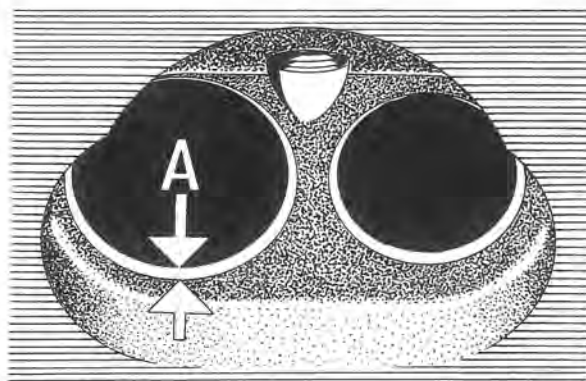

Fig. 2-26. Valve seat width $A=2$ mm (0.08")
2. Grind the valve seats. Use an electrically driven grinder or a hand milling cutter. A pilot spindle must be carefully fitted before work is started and any worn guides must be replaced with new ones. The seat should be ground until a good sealing surface is obtained. The angle is 45° and the width of the sealing surface is approx. 2 mm (0.08"), see "A", Fig. 2-26. If the sealing surface is too wide after grinding, it can be reduced by using a 70° grinding stone from the inside and a 20° grinding stone from the outside.